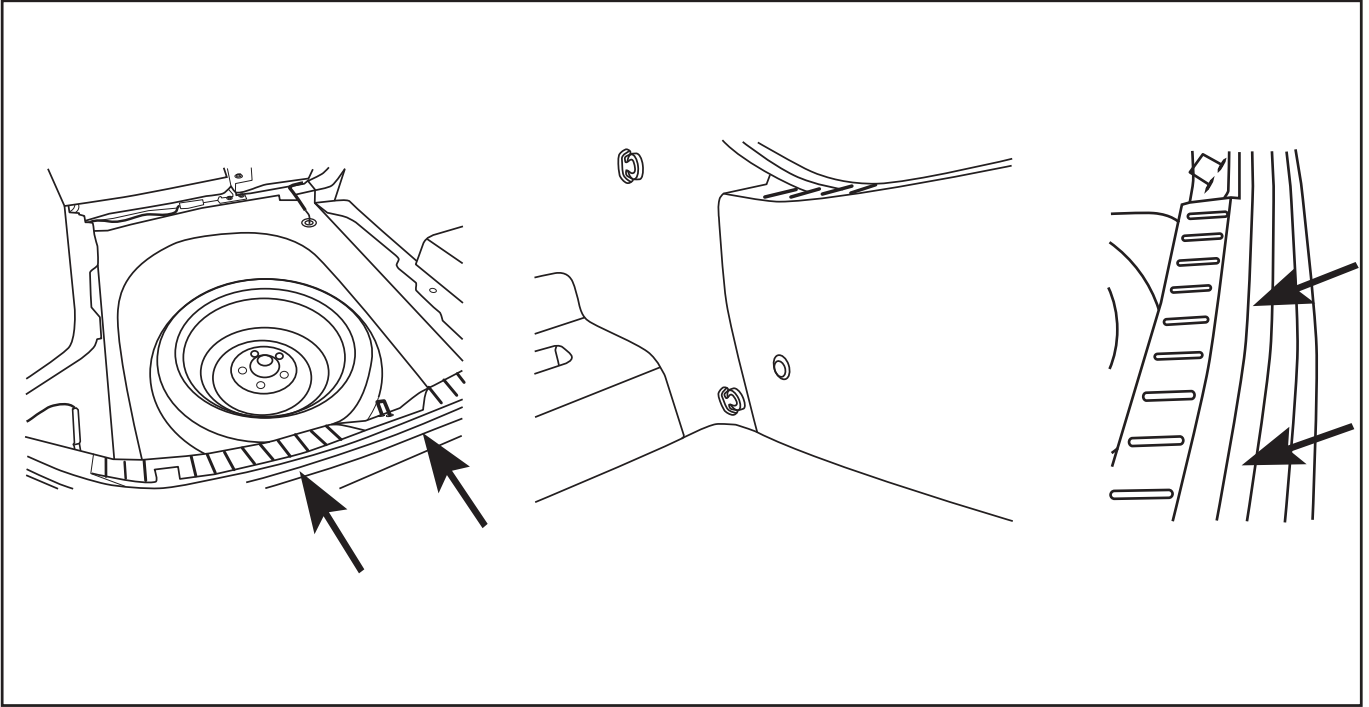

Fig. 17
18. Reinstall both side trunk panels including the push-rivets. Reseat the front edge of the side trunk panels under the rear seat trim panel. Reinstall the rear trunk panel, including the push-rivets. Re-seat the weather-stripping around the trim (Fig. 17).